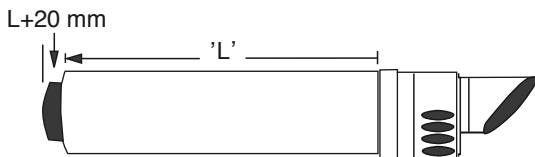

Figure 14
10.9 On installing the flue, determine the required length of the **outer air duct** by measuring the distance 'L' (*Figure 14*) from the face of the external wall to the back of boiler's elbow connecting collar. The measurement for the **inner flue duct** will be 'L' + 20mm
10.10 Measuring from the back of the terminal connection, mark distance 'L' onto the outer air duct. (*figure 14*)
10.12 Measuring from the back of the terminal connection, mark distance 'L' + 20mm (*figure 14*) onto the inner flue duct and cut the duct to size, ensuring that the cut is square and free from burrs.